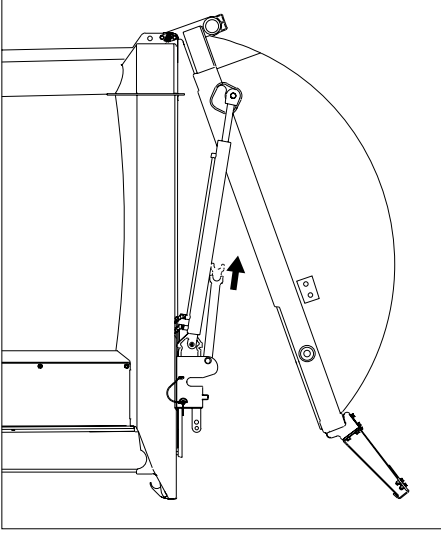

Figure 7. Pulling the tailgate safety prop out from its home position
6. Pull the safety prop upward (see Figure 7. "Pulling the tailgate safety prop out from its home position").